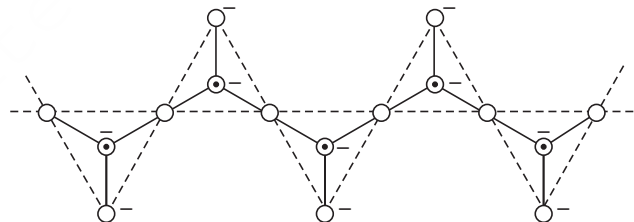

Fig. 19.1 Structure of  $[(\text{SiO}_3)_n]^{-2n}$  ion (single chain).  $\odot$  — Silicon atom,  $\ominus$  — Oxygen atom.
*Clay is a mixture of variety of minerals* like bentonite, kaolinite, hauoysite etc. Basically most of these are *hydrated silicates of aluminium*. The structural pattern of silicates are important in different ceramic products which have been shown in following figures: In a silicate unit silicon atom is symmetrically surrounded by four oxygen atoms to form a tetrahedral unit. These tetrahedral units remain joined in the silicates (see Fig. 19.1).
**Chain silicates.** These silicates are of two types *viz., single chain silicates and double chain silicates*. Single chain silicates contain  $[(\text{SiO}_3)_n]^{-2n}$  ion as the primary unit (Fig. 19.1), while double chain silicates contain  $[(\text{Si}_4\text{O}_{11})_n]^{-6n}$  as the primary unit (Fig. 19.2).